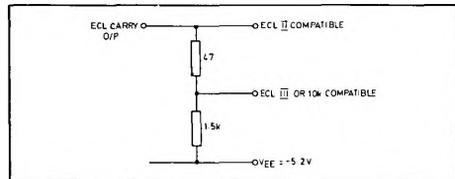

Fig. 3 ECL II to ECL 10K interface
4. The ECL carry output is compatible with ECL II throughout the temperature range but can be made compatible with ECL III using the simple interface shown in Fig. 3.